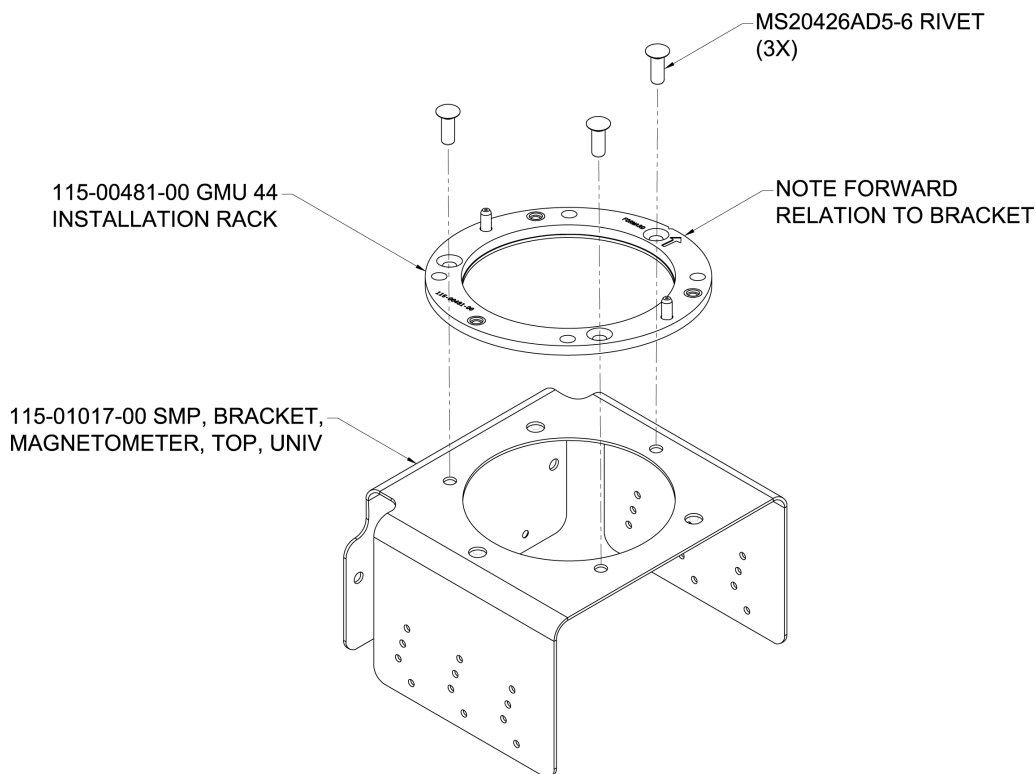

Figure A-9 GMU 22 Installation Rack (ES/ES-P)
5. Rivet the GMU 22 Installation Rack (115-00481-00) to the Top Bracket Assembly (115-01017-00) as shown in Figure A-9.